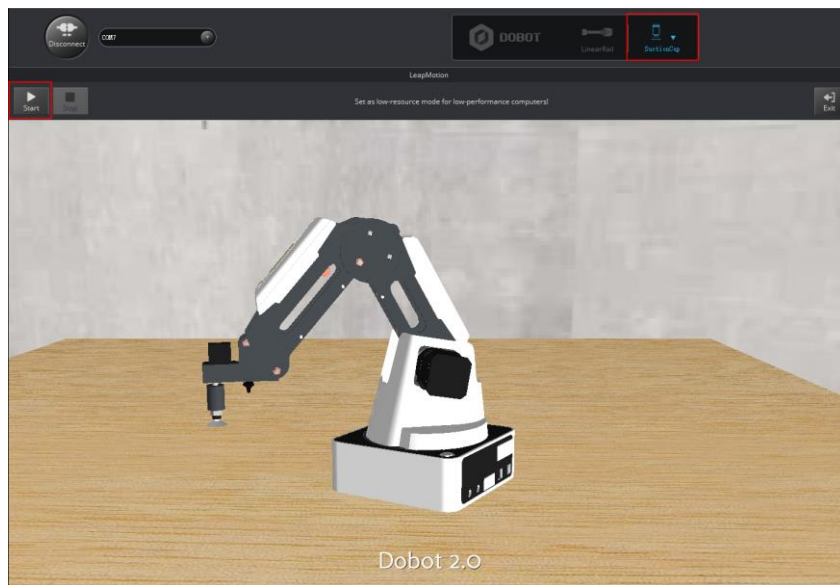

Figure 5.112 Click Start
Step 5 Choose **SuctionCup** as the end-effector on the **DobotStudio** page, and click **Start** to control the **Dobot Magician** with your hand gesture, as shown in Figure 5.112. To maintain the Dobot Magician in a stable state, move your hand into the workspace of the Leap Motion controller while keeping your palm upward. And turn your palm down, and then move your hand above this area to control the Dobot Magician.